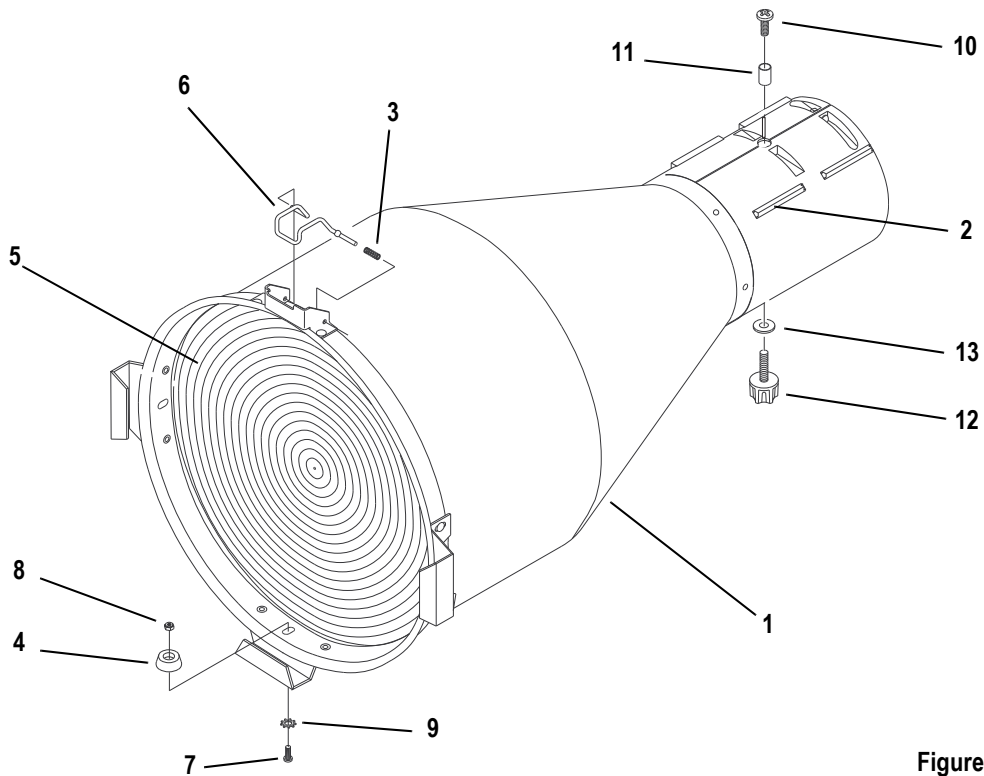
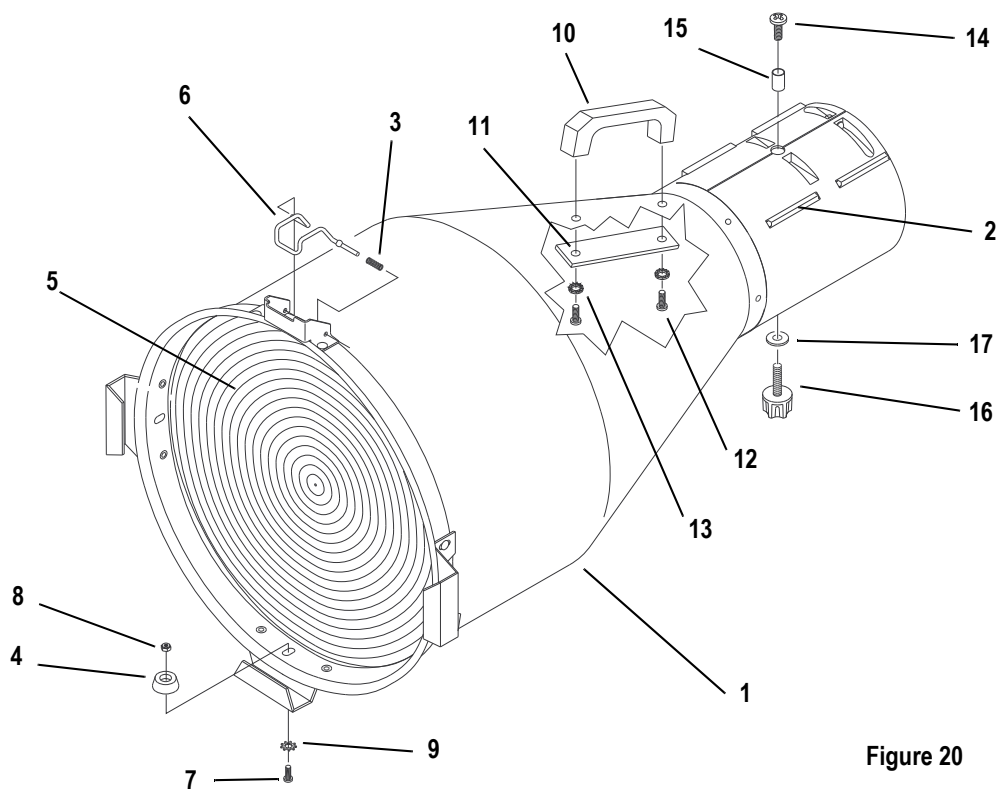

Figure 19
Figure 20
Step 2: Install lens support pads (4) as required inside both lens tubes. Four pads are required per lens. Insert pads short-side down, as shown in Figure 19.
Step 3: Install the 1/4-20 hex nut (13) in the left lens tube as shown.
- Step 1: Place the lens tube assembly (1) on your work surface. Align the assembly so that the colorframe grooves are to your left.
- Step 2: If you are assembling a 5° tube, attach the handle (10) as shown in Figure 20, using the screws (12), washers (13) and backing plate (11).
- Step 3: Install the required lens as shown in Figure 19 or Figure 20 in the tube using required bumpers (4), screws (7), nuts (8), and washers (9). The side of the lens with the fresnel grooves should face the front of the tube. The smooth side should face the rear.